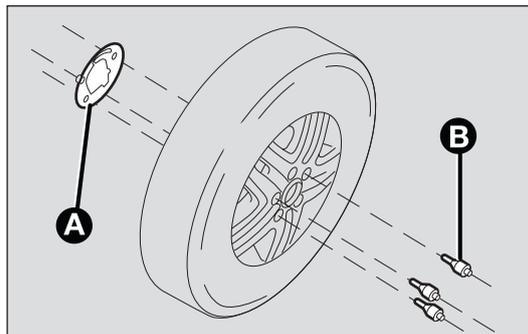

fig. 168
- fit plate A-fig. 168 to the alloy wheel, securing with screws B provided, using the supplied wrench;